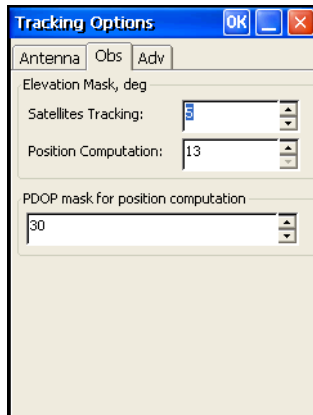

Figure 3-20. Configure Receiver Positioning – Elevation Mask
9. Click the **Observation** tab, and set the **Elevation mask** to 15 degrees for satellites tracking and position computation (Figure 3-20), also the **PDOP mask** for position computation, then click **OK**.